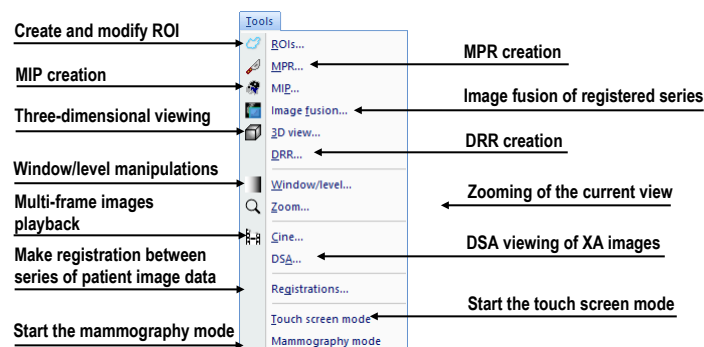

Figure 38 – Tools menu
- **Tools** – the tools for image data handling such as windowing/zooming, 3D viewing, reconstructed viewing (MPR, MIP, DRR), subtraction viewing (DSA), creating regions of interests and registrations, defining multi-modal registrations and launching the touch screen mode and mammography mode (see Figure 38).